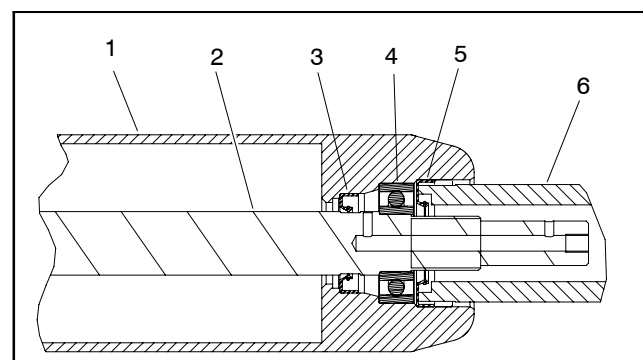

Figure 24
D. Carefully install first outer seal into roller tube making sure that seal lip (and garter spring) faces end of tube. Use bearing/outer seal tool (see Special Tools) and soft face hammer to lightly seat seal (Fig. 24). Make sure that shaft and bearings still freely rotate after seal installation.